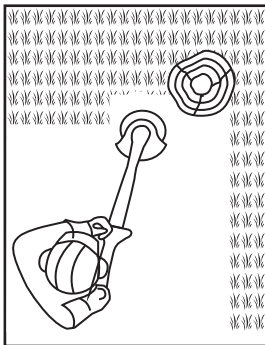

Fig. 20
4. Rotate the plant protector to trimming / edging position to avoid bringing the cutting device into contact with hard objects such as walls and kerbstones (Figs. 20, 21).